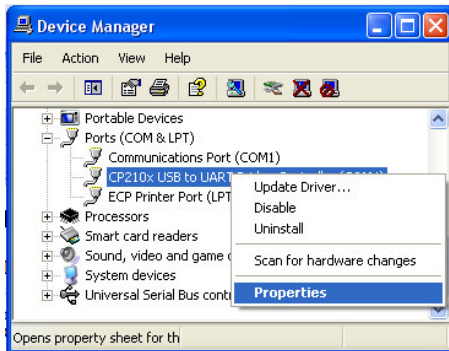

Figure 16 – Open properties for the TPUSB unit
- 3) Right click on the unit and choose properties(Figure 16).